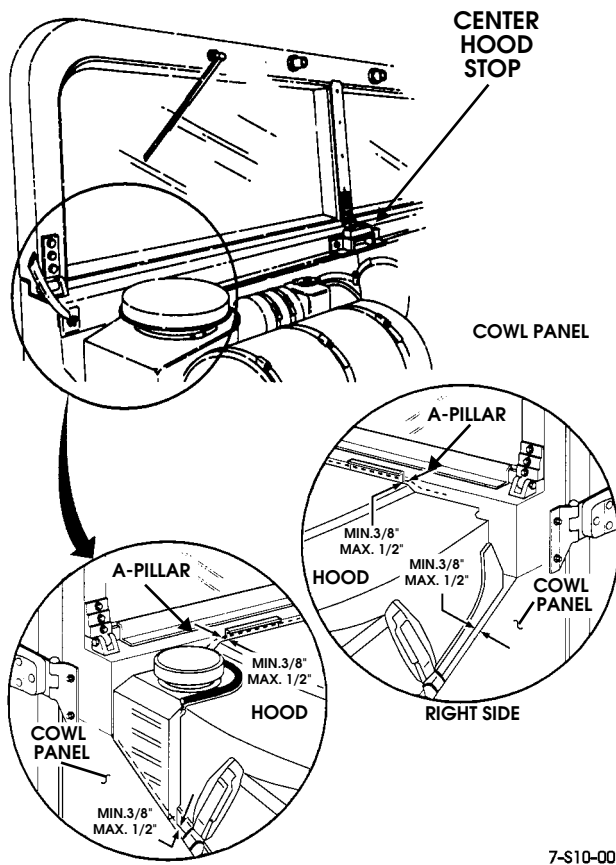

Figure 10-85: Center Hood Stop Location
2. Open hood and loosen center hood stop (Figure 10-85).
4. Gently position hood to obtain proper and even clearance with A-pillar and both front cowl panels (minimum 3/8" / maximum 1/2") (Figure 10-85).
contact center hood stop. Gently close hood to check guide bracket assembly position (Figures 10-85 and 10-87).